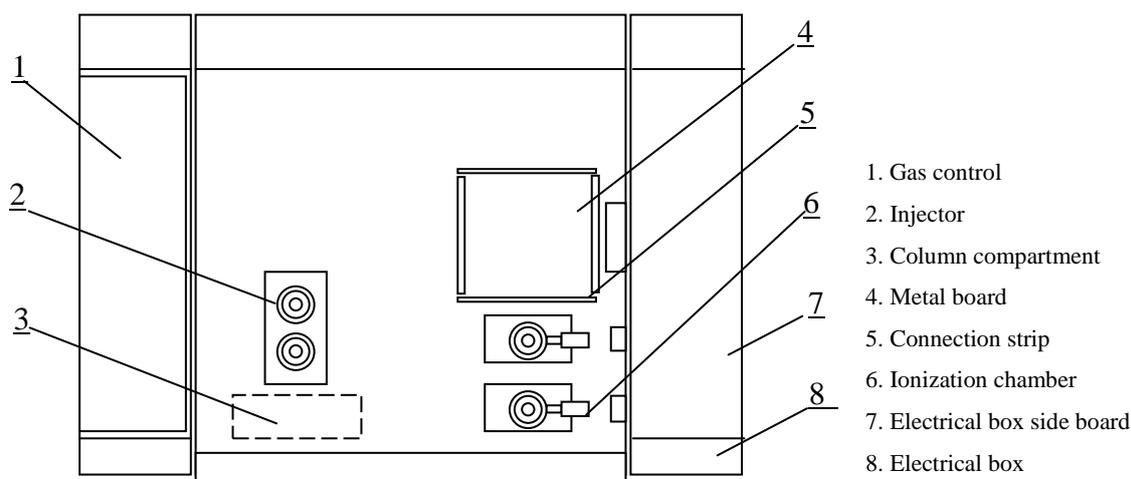
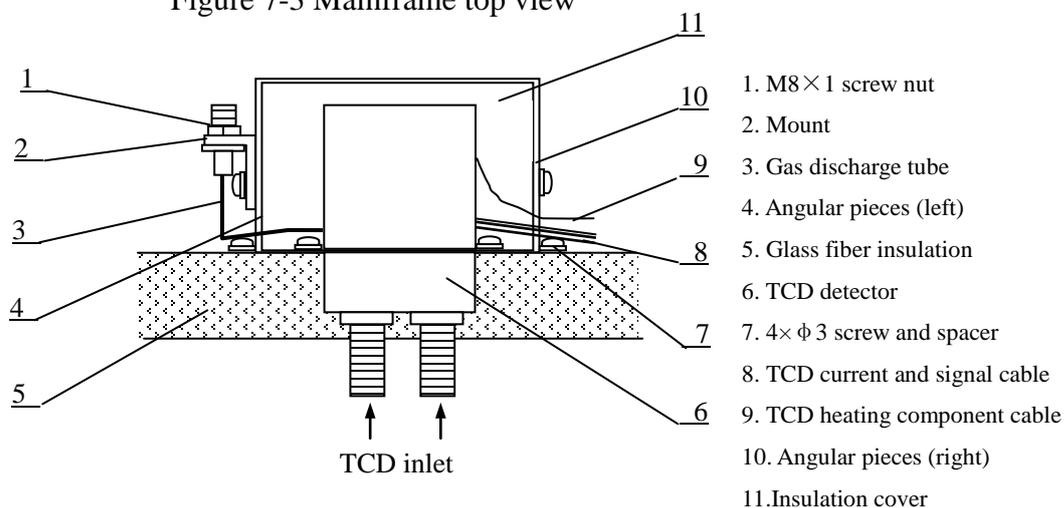

Figure 7-3 Mainframe top view
Figure 7-4 TCD installation sketch
- 3) Place TCD at that position and fasten the four bolts by a screwdriver (Note: the TCD should be oriented in such a way that its cable terminals face the electrical box). Please refer to Figure 7-3 and Figure 7-4.